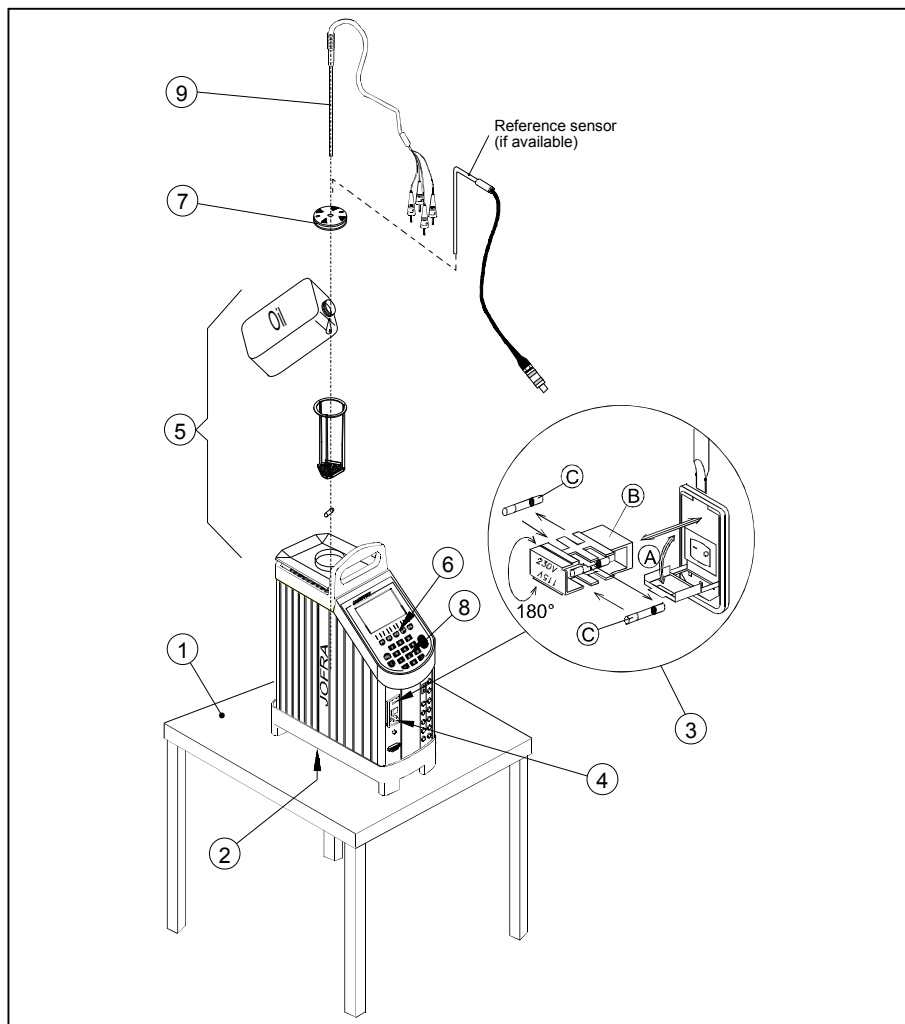

Fig. 1b
- ③ Check the voltage of the power control switch (on/off switch (230V/115V)). If the voltage of the power control switch differs from the line voltage, you must adjust the setting of the power control switch as follows (see fig. 1b):
- ④ Check that the earth connection for the instrument is present and attach the cable.
- ⑤ Place the parts from the liquid bath kit in the well in the following order: